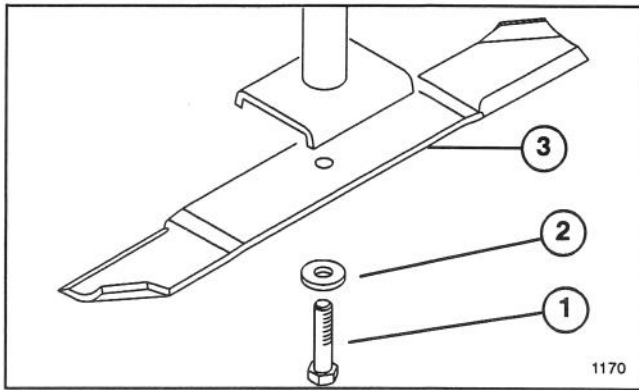

Figure 13
2. Hold the blade end using a rag or thickly padded glove. Remove blade bolt, flat washer and blade from spindle shaft (Fig. 13).
3. Install blade, with-sail facing toward cutting unit, flat washer and blade bolt (Fig. 13). Torque blade bolt to 85–110 ft. lb.